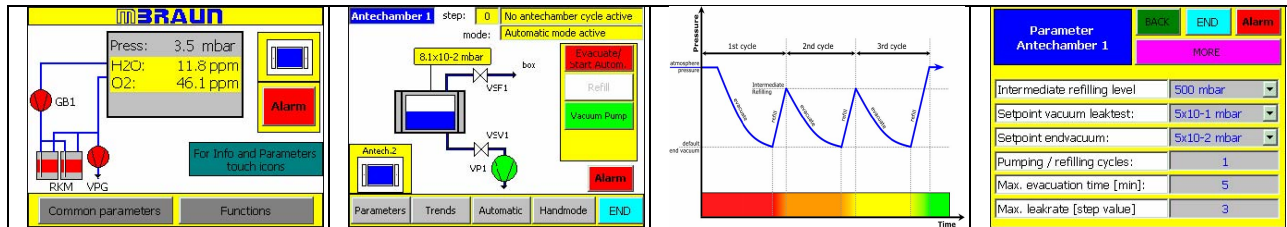

Figure 5. a, b, c, d
1. Push the blue icon at the right high corner in the PLC (Fig.5.a).